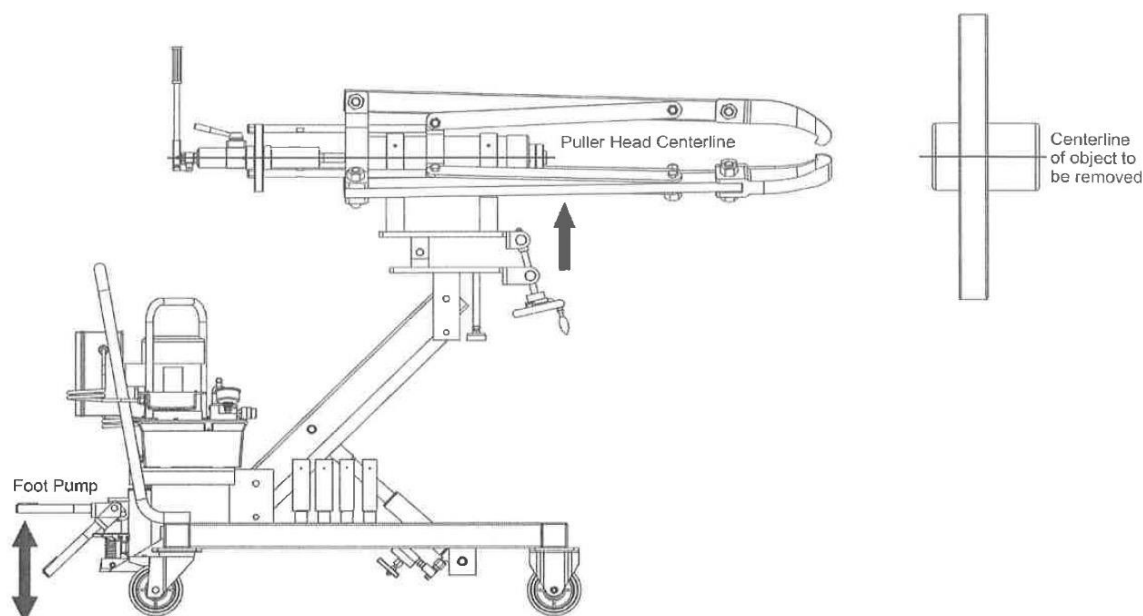

Figure 1 – Puller Alignment
5.2.1 Align the puller horizontally and vertically as close as possible to the same centreline as the object to be pulled (see Figure 1).